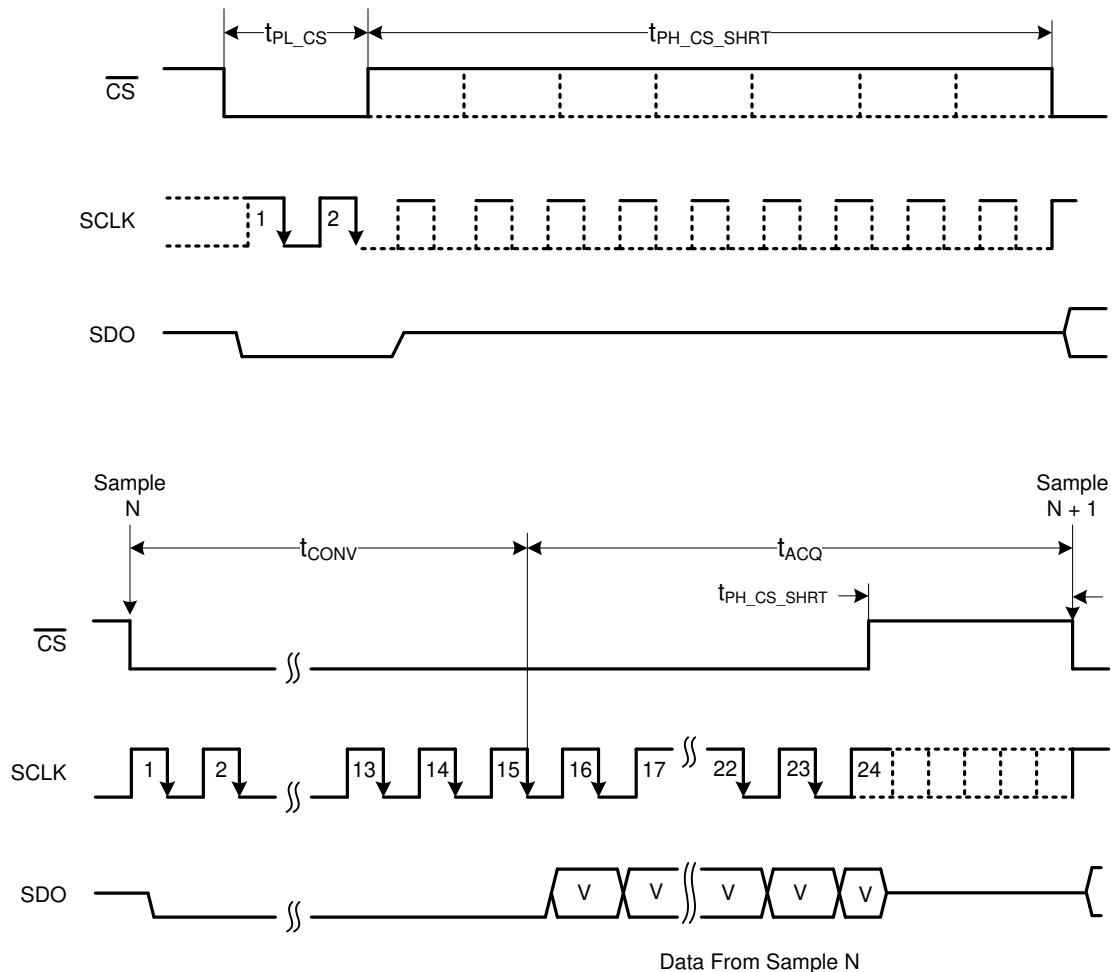

图 7-12. Frame Abort, Reconversion, or Short-Cycling Feature
As shown in 图 7-12, the minimum number of SCLK falling edges (N) that must be provided between the beginning and end of the frame depends on the serial interface mode. The SCLK falling edges (N) program the device and retrieve the conversion result. If $\overline{CS}$ is brought high before the expected number of SCLK falling edges are provided, the current frame is aborted and the device starts sampling the new analog input signal.